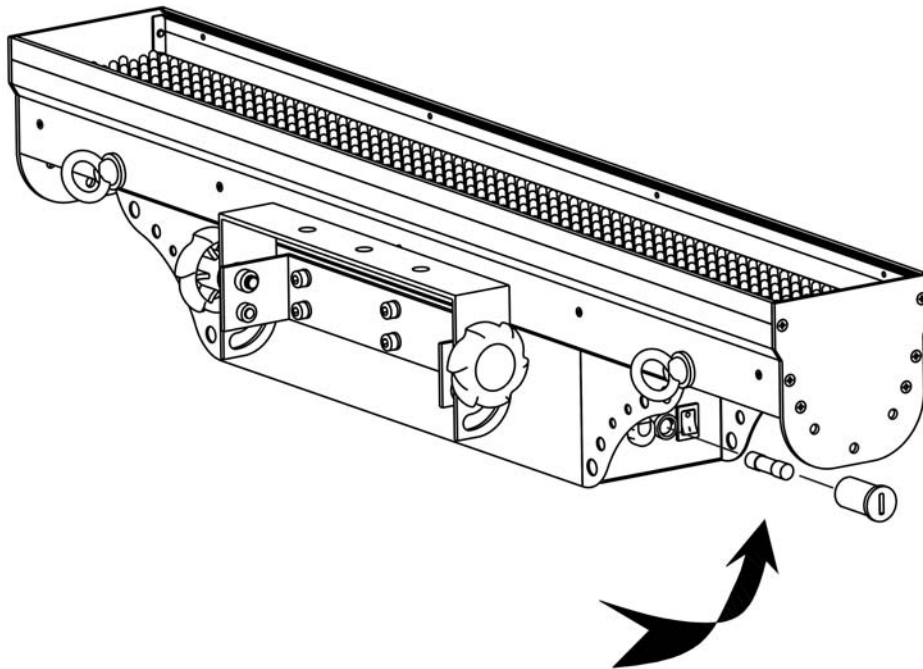

Fig. 3
2. Insert a screwdriver into the slot in the fuse cover. Turn the screwdriver to the left, at the same time gently push a bit (Turn and Push). The fuse will come out. (Fig. 3)